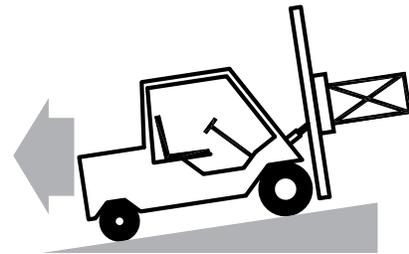

Figure 3-4
- Always back down ramps or inclines. Driving forward down a ramp or incline with a clamped load will lessen the stability of the truck. (Figure 3-4)